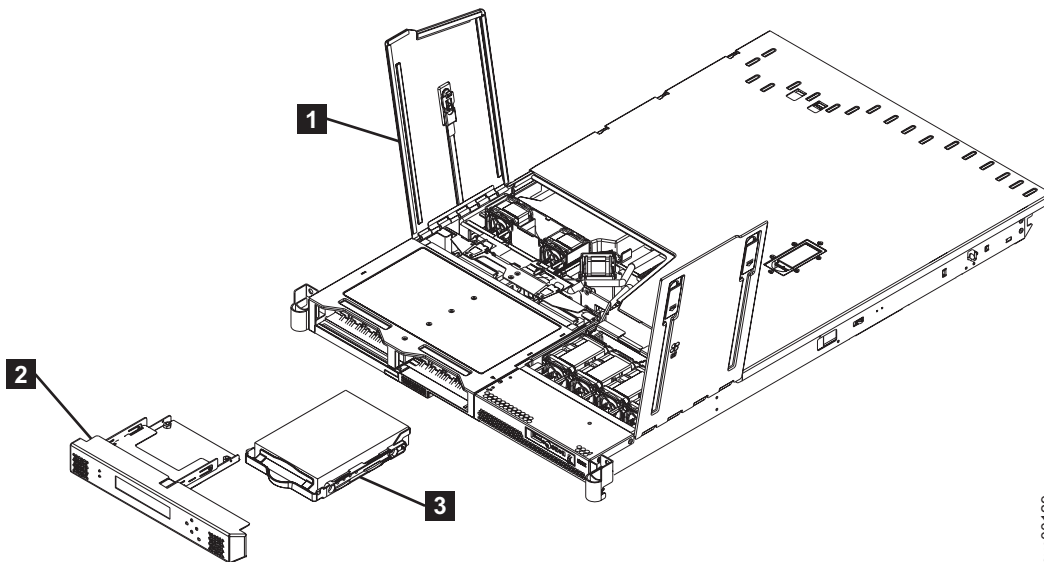

Figure 87. Removing the SATA disk drive
4. Open fan door A **1**. See Figure 87.